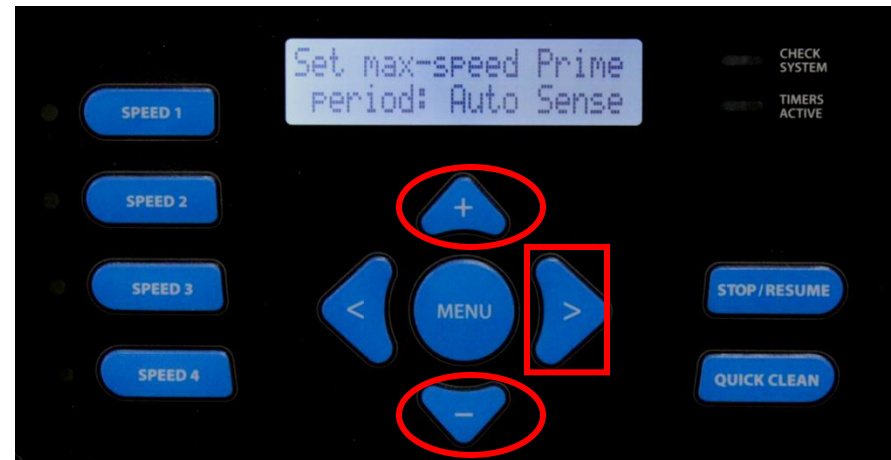

Fig 42
11. You will now see the max-speed Prime period. Press **+** & **-** buttons for Auto Sense (3000 RPM), or a 3 min (max set speed) prime period (fig 42). This function only works in Standalone and Relay Control modes. Press the **>** button to continue.